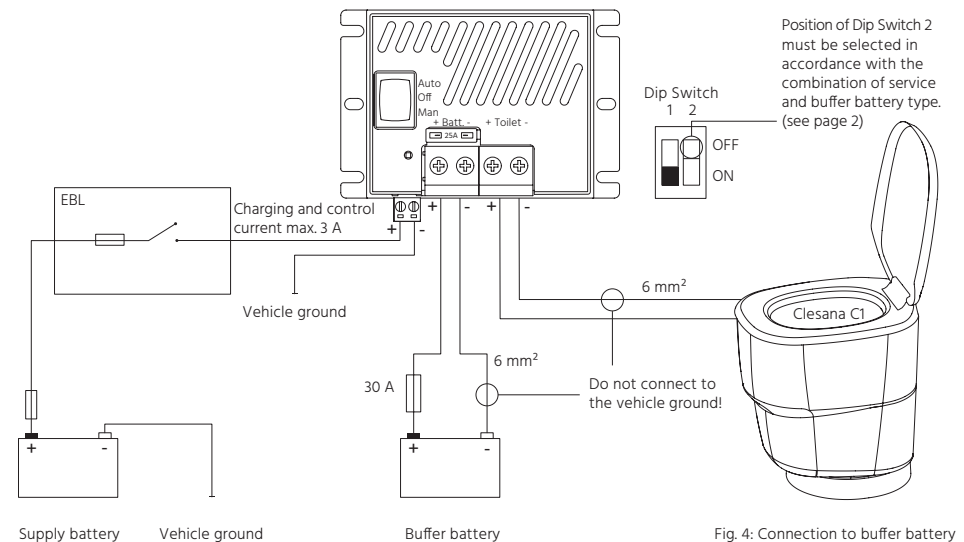

Fig. 4: Connection to buffer battery
- 1. Battery:** The battery is connected using the original cable set from Clesana. The cable set is fused with 30 A just behind the battery pole; do not insert the fuse yet, it is inserted for the initial start-up. Caution, the ground side of the battery must not be connected with the vehicle ground (body), the ground wire goes directly from the battery into the Clesana Power-Management, see Fig. 4.